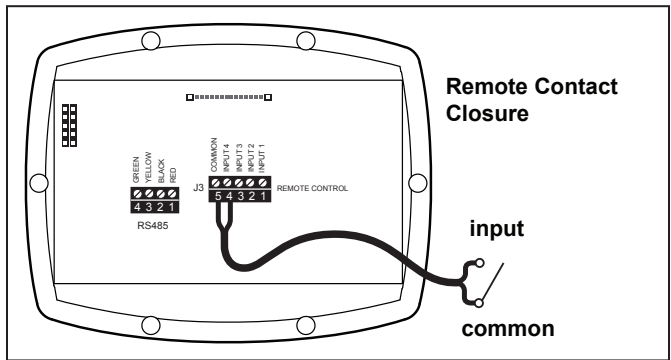

Figure 5. Connect to Remote Contacts
2. Connect one side of the remote contact closure to the COMMON terminal on J3 REMOTE CONTROL connector of the controller. See "*Figure 5. Connect to Remote Contacts*"